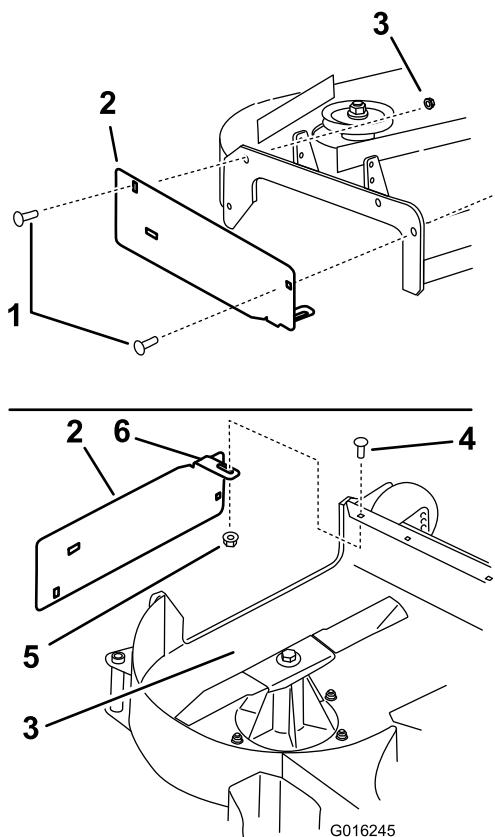
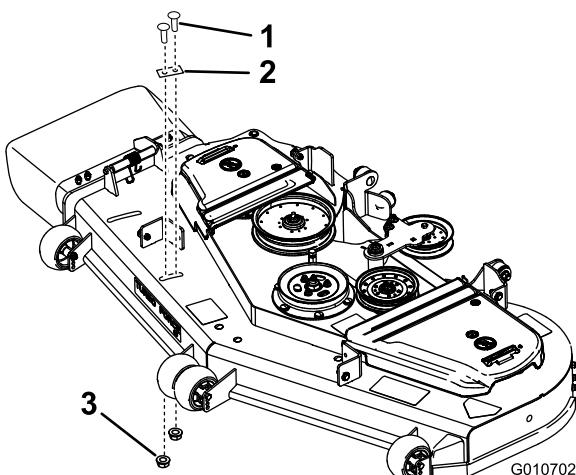
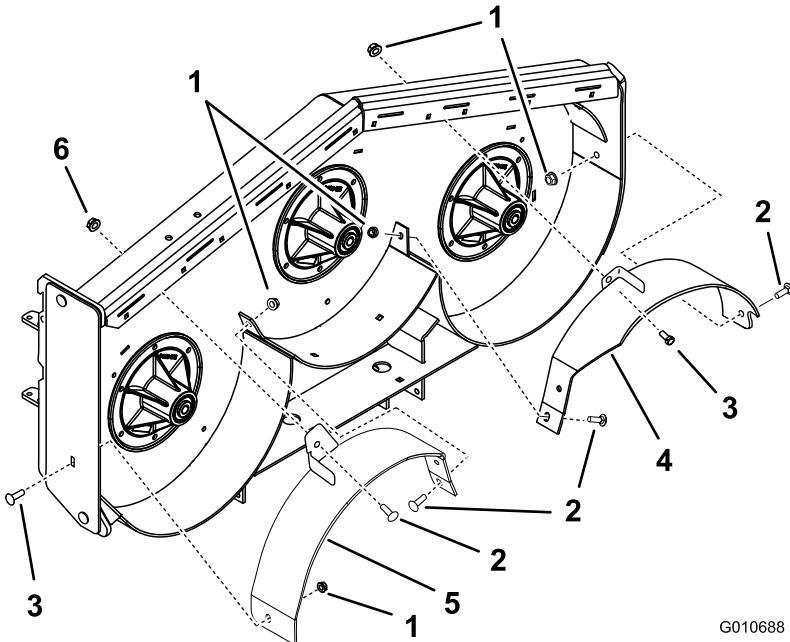
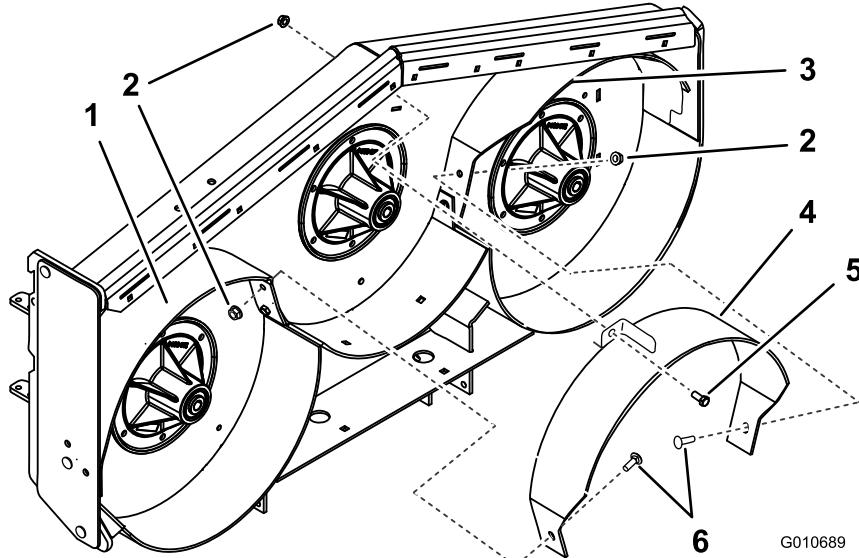

Figure 8
Figure 9
Figure 10
Figure 11
1. Install the discharge plate to the outside of the mounting bracket with 2 carriage bolts (3/8 x 1-1/4 inches) and 2 flange nuts (small flange) (3/8 inch) (Figure 8).
2. Install the tab to the inside of the mower deck with 1 carriage bolt (5/16 x 7/8 inch) and 1 flange nut (small flange) (5/16 inch) (Figure 8).
3. Install the cover plate with 2 carriage bolts (3/8 x 1 inch) and 2 flange nuts (large flange) (3/8 inch) (Figure 9).
Note: Loosely install the baffles to align the baffles with all holes in the mower (Figure 10).
2. Loosely install the right baffle to the discharge plate with 1 carriage bolt (3/8 x 1 inch) and a flange nut (small flange) (3/8 inch) (Figure 10).
3. Loosely install the right baffle to the top of the mower deck with 1 carriage bolt (3/8 x 1 inch) and 1 flange nut (large flange), (3/8 inch) (Figure 10).
4. Loosely install the right baffle to the mower deck with 1 carriage bolt (3/8 x 1 inch) and a flange nut (small flange) (3/8 inch) (Figure 10).
6. Loosely install the left baffle to the top of the mower deck with 1 bolt (3/8 x 1 inch) and 1 flange nut (small flange) (3/8 inch) (Figure 10).
7. Loosely install the left baffle to the mower deck with 2 carriage bolts (3/8 x 1 inch) and 2 flange nuts (small flange) (3/8 inch) (Figure 10).
9. Loosely install the center baffle to the left baffle with 1 carriage bolt (3/8 x 1 inch) and 1 flange nut (small flange) (3/8 inch) (Figure 11).
10. Loosely install the center baffle to the right baffle with 1 carriage bolt (3/8 x 1 inch) and 1 flange nut (small flange) (3/8 inch) (Figure 11).
11. Loosely install the center baffle to the top of the mower deck with 1 bolt (3/8 x 1 inch) and 1 flange nut (small flange) (3/8 inch) (Figure 11).
1. Tighten all nuts and bolts for the baffles (Figure 8, Figure 9, Figure 10 and Figure 11).